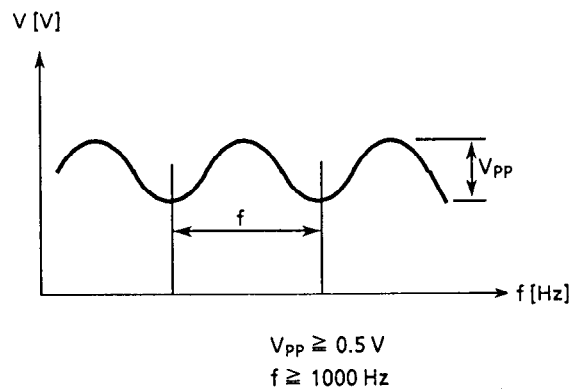

Figure 18
- Do not apply any ripple voltage under the condition in Figure 18 to V_{IN} terminal.